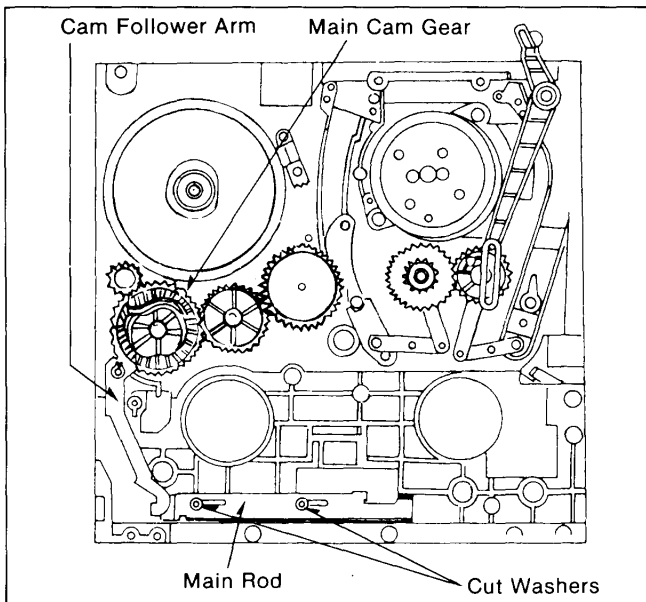

Figure M52
1. Install the Main Rod and then insert the cut washers as shown in Figure M52.